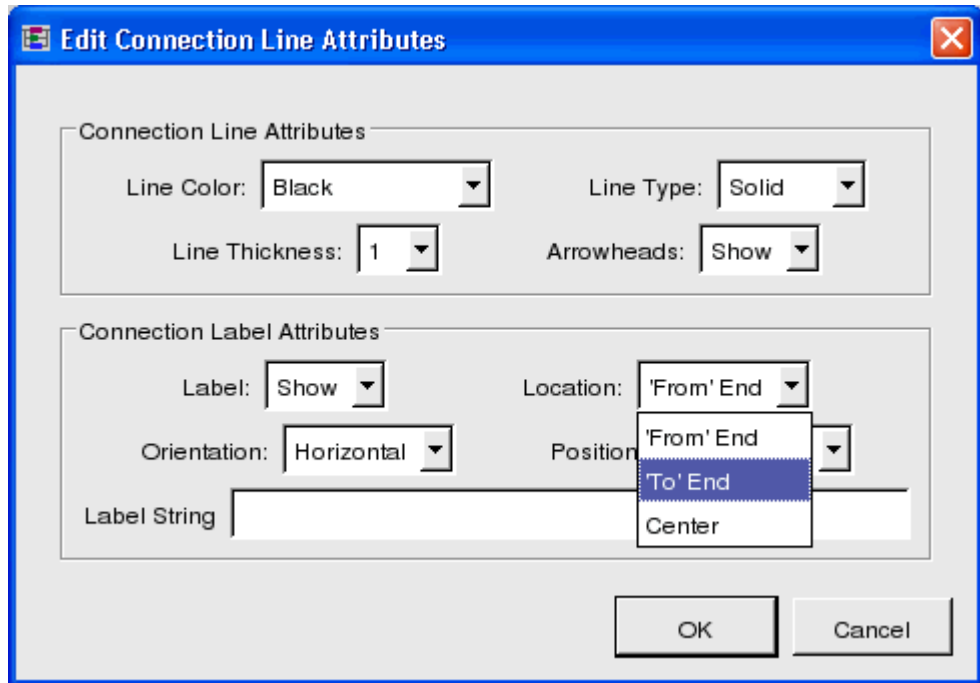

Figure 41 Edit Connection Attributes
2. This opens the window shown in that Figure 41 lets you select whether you want to display the connection line label, and how it is to be displayed, its position, orientation, arrowheads on/off, location, line type, and color.